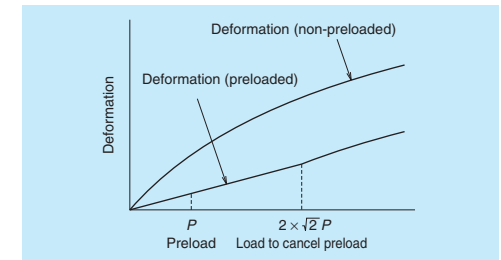

Fig. 3.2 Elastic deformation
- In general, the load range of ball guide system in which the preload is effective is about 2.8 times the preload (Fig. 3.2). For roller guide system, it becomes about 2.2 times the preload.